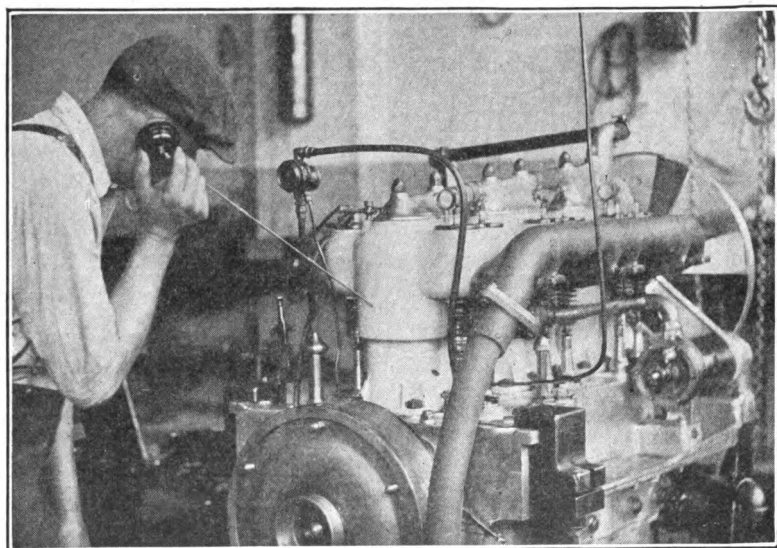

Fig. 28. Using Stethoscope to Listen to Engine Noises
**Locating Noises by Means of a Stethoscope.** Besides this, it should be borne in mind that there are many sources of noise in and on the engine other than that produced by valves and valve motions. In fact, the noises made by the valves, while an indication of loss of power, do not represent anything like the possibilities for trouble indicated by a piston slap, a crankshaft or connecting-rod pound, the whirr of worn timing gears, and others. In order to locate such sources of noise exactly, at a time when the beginner lacks familiarity with the motor and its troubles he should purchase or borrow and learn to use a stethoscope, Fig. 28. A modification of the surgeon's well-known instrument is now made for use in automobile trouble finding.